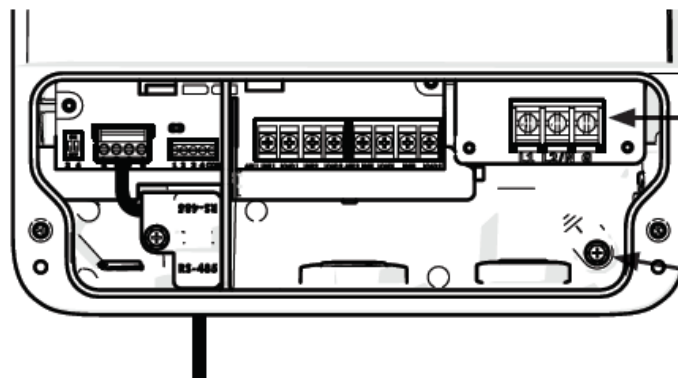
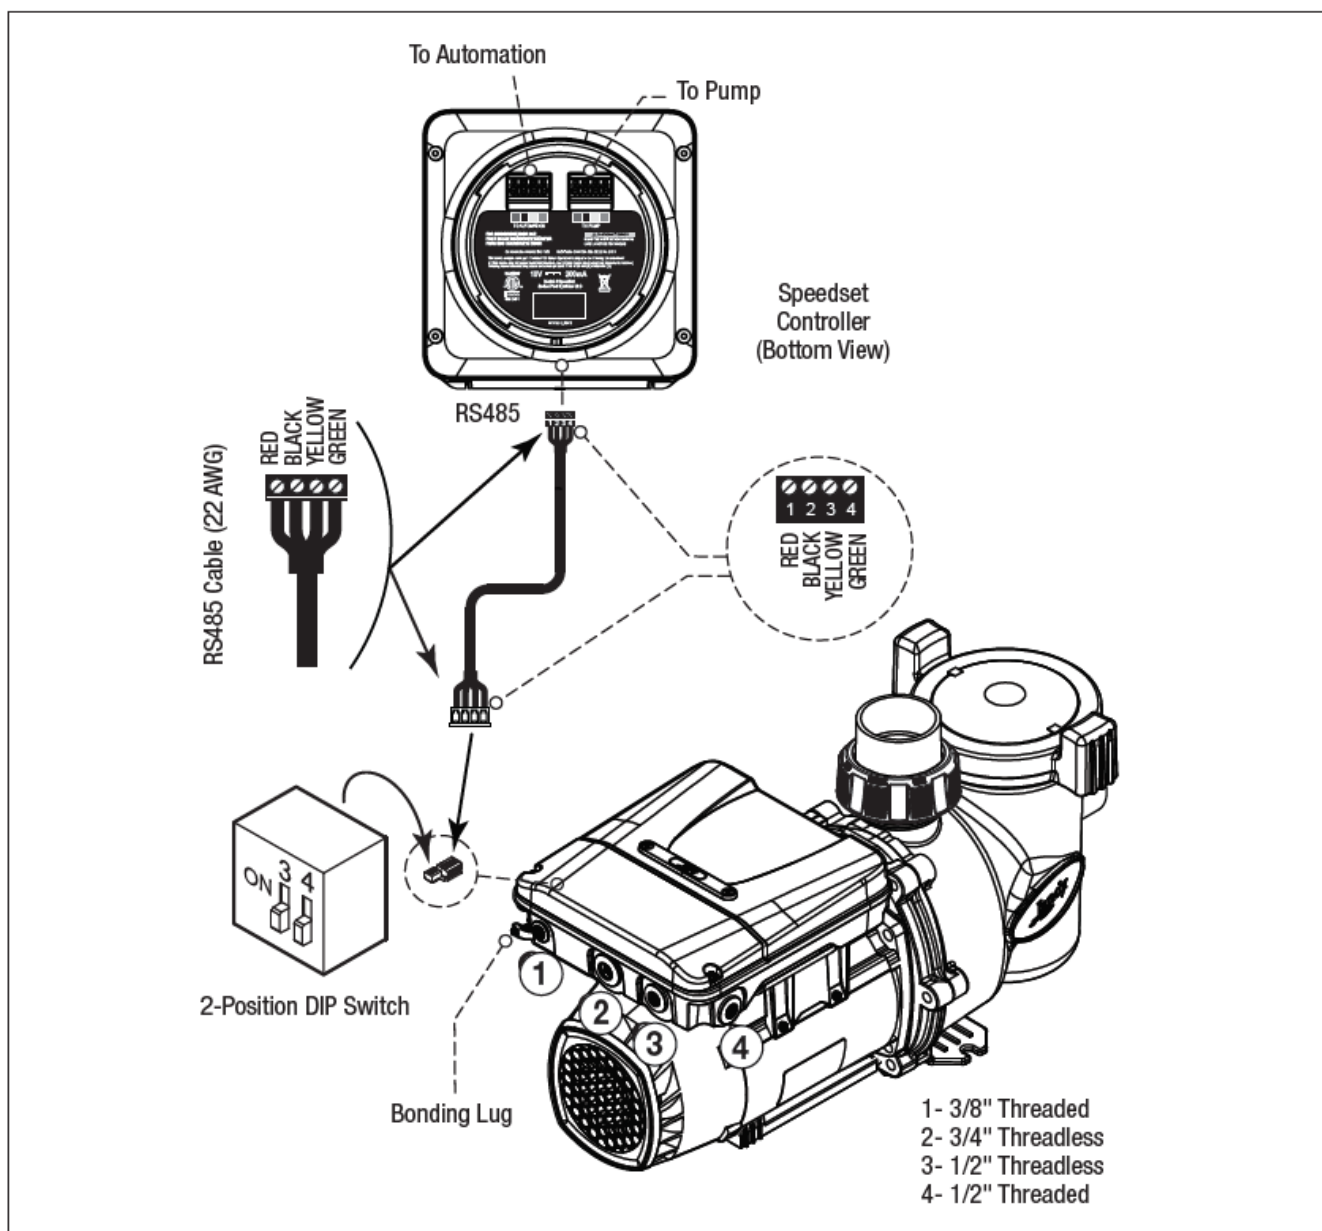
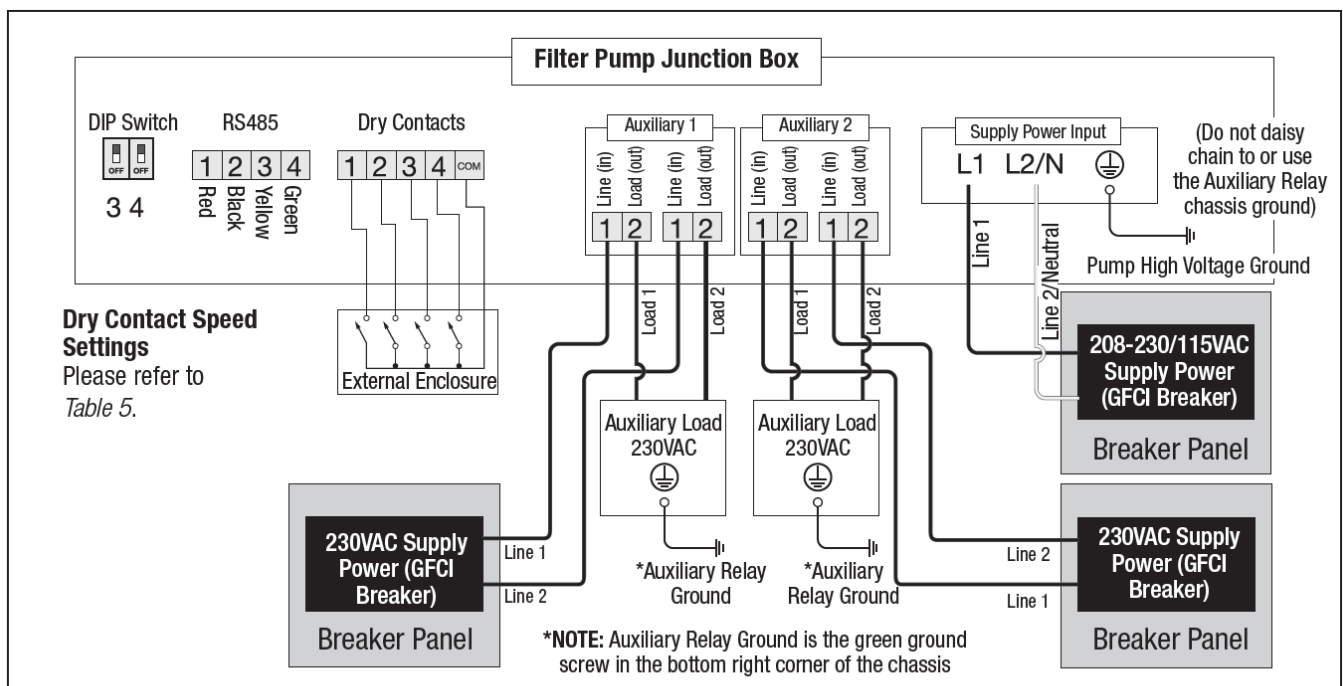
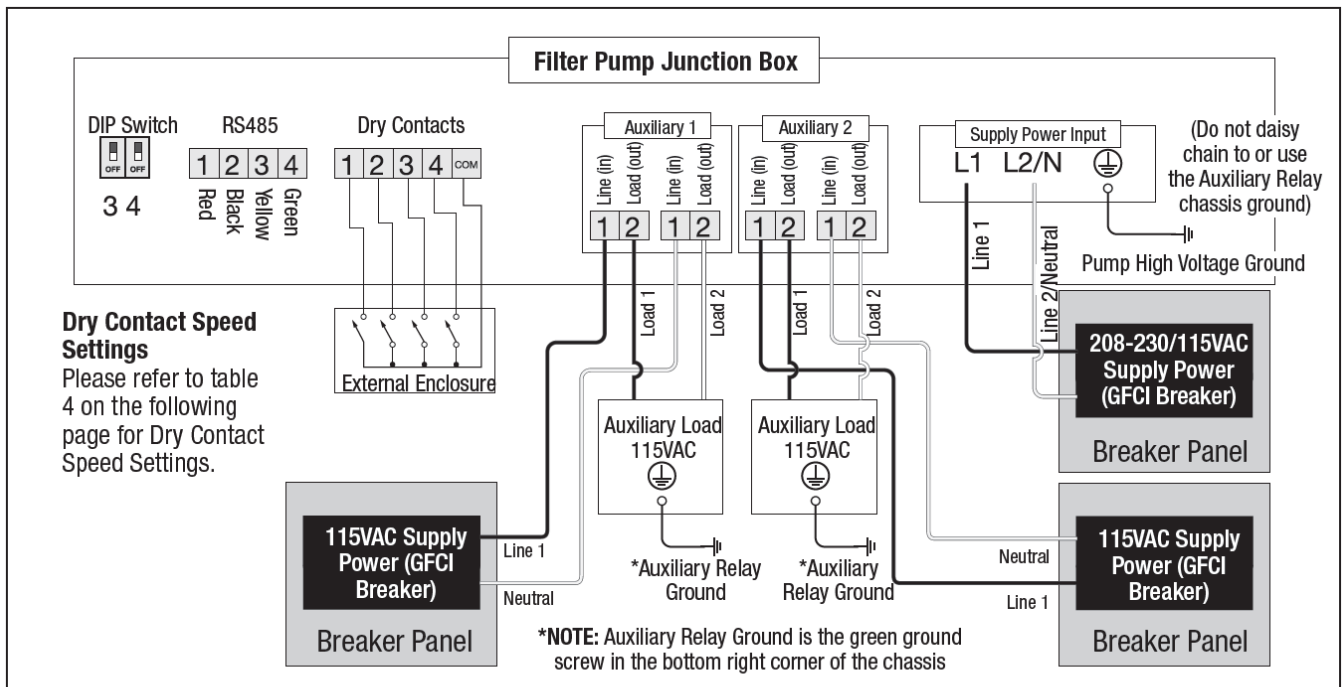

Figure 8. RS-485 Quick Connect Port with Wiring
Figure 9. Wiring to a Controller
Figure 12. 208-230V Auxiliary Relay Wiring Diagram*
Figure 13. 115V Auxiliary Relay Wiring Diagram*
In addition to being properly grounded as described in Section 3.3.3, Electrical Wiring, and in accordance with the requirements of the National Electrical Code (NEC), or in Canada the Canadian Electrical Code (CEC), the pump motor must be bonded to all metal parts of the swimming pool, spa or hot tub structure and to all electrical components and equipment associated with the pool/spa water circulation system. The bonding must be accomplished by using a solid copper conductor, No. 8 AWG or larger. In Canada No. 6 AWG or larger must be used. Bond the motor using the external bonding lug provided on the motor frame. See Figure 9.
- RS-485 quick connect port (see Figure 8)
The high voltage compartment provides 3 conduit port openings (see Figure 9):
1. Ground the pump using the green ground screw provided on the high-voltage terminal block. Do NOT ground or daisy chain the ground wire to the secondary green ground screw or daisy chain to on the wiring compartment chassis (see Figures 8 and 12). Also do not ground to a gas supply line.
NOTE: When power alone is supplied to this pump, it will not operate. It requires a digital command sent to it by either a variable speed controller (SpeedSet, JEP-R, or iQPUMP01), an automation system, or use of the dry contacts (See Figure 8 and Figure 9 for RS485 wiring illustrations for a local controller or automations system. See Figure 12 and Figure 13 for dry contact wiring illustrations).
See Figures 8, 12 and 13 for compartment details and location of the auxiliary relays
If no inputs are jumped to common, the RPM is zero. When any Jandy controller is connected through RS-485, all dry contact commands will be ignored. Refer to Figure 12 and Figure 13 for dry contact wiring. Refer to Table 5 for dry contact speed settings.